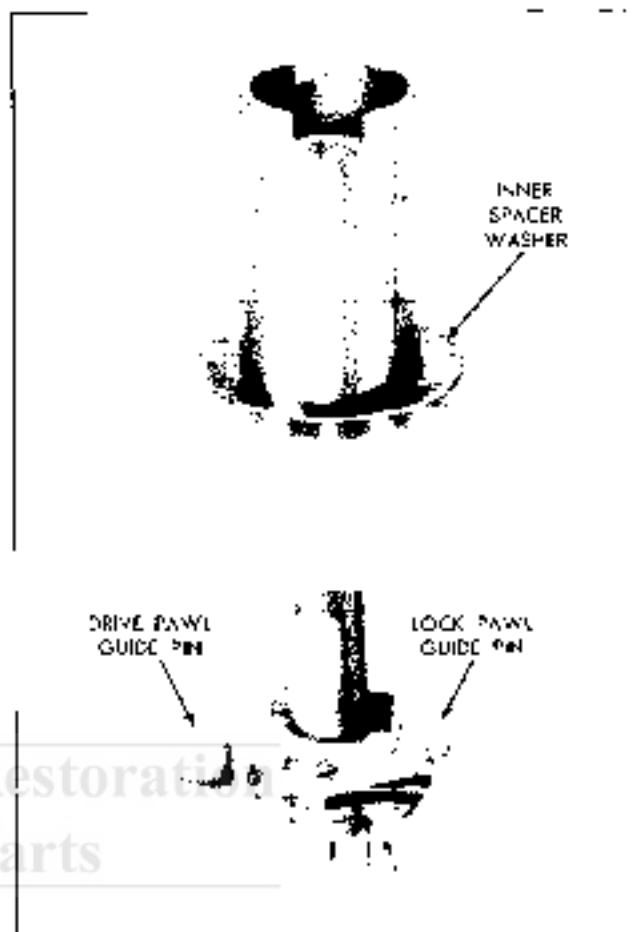

Fig. 12-40 Installing Gear and Drive Shaft—Pontiac
3. Slide gear and tube over the drive shaft (Fig. 12-40). Make drive and lock pawls as required to allow their respective pins to fit in gear guide channel).